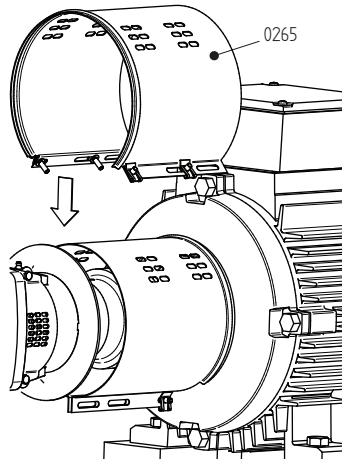
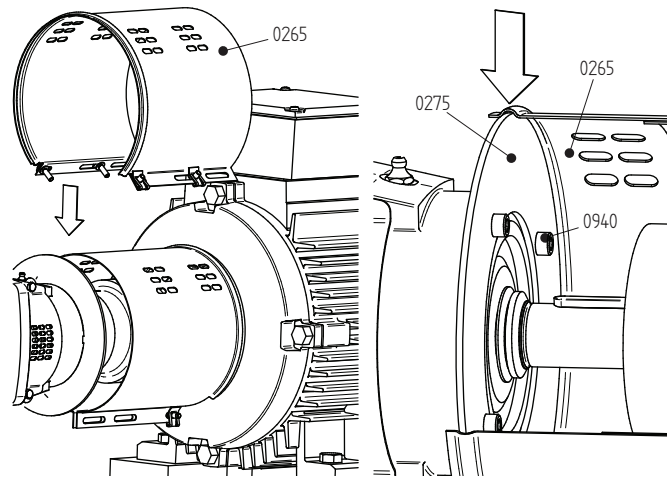

Figure 10: Fitting the jacket at motor side.
Figure 13: Fitting the jacket at pump side.
- 2 Remove both jackets (0270). See figure 10.
- 4 Remove the coupling half from the pump shaft with a coupling puller and remove the coupling key (0200)(0260 MCH(W)(S)20a/b).
- 5 Unscrew bolts (0940) and remove the assembly plate (0275) from the bearing housing (0010). See figure 13.
- 3 Fit the assembly plate (0275) to the bearing housing (0010) with bolts (0940). See figure 13.
- 4 Fit the coupling key (0200)(0260 MCH(W)(S)20a/b) and fit the coupling half onto the pump shaft.